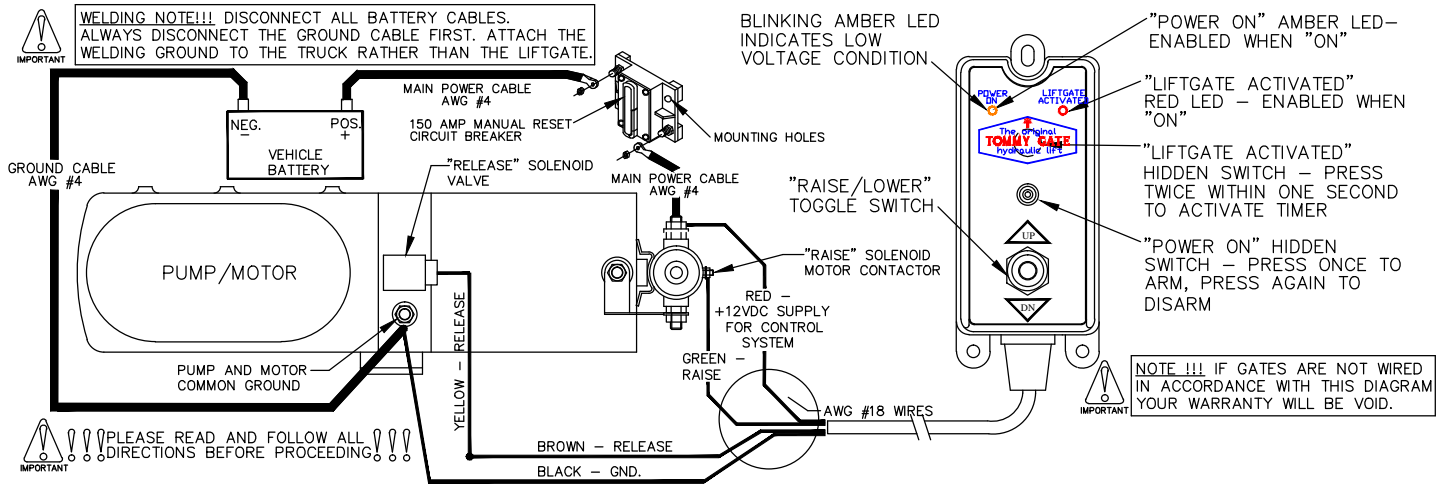

Figure 17: Wiring diagram.
2. **Push** the hidden "Power On" switch (Figure 17). The amber "Power On" LED will illuminate.
13. **Connect** the circuit breaker and battery as outlined in the *Tommy Gate Recommended Electrical Wiring Guidelines* and wiring diagram (Figure 17).